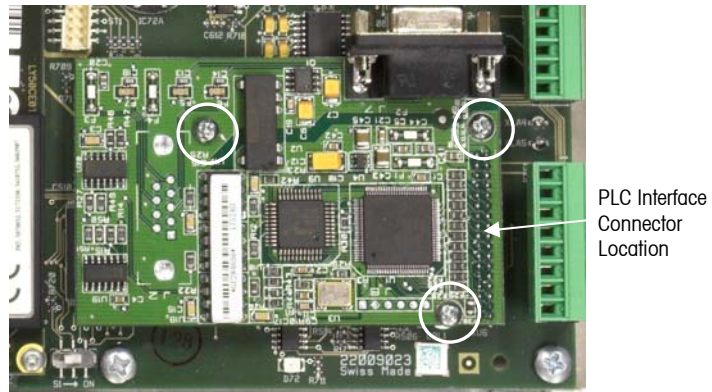

Figure 3-51: PLC Interface Module Installed on Main PCB
To remove a PLC interface module from the main PCB, loosen and remove the three screws (indicated in Figure 3-51) holding it in place, and carefully lift the module off its connector.
3. Install the three screws indicated in Figure 3-51.